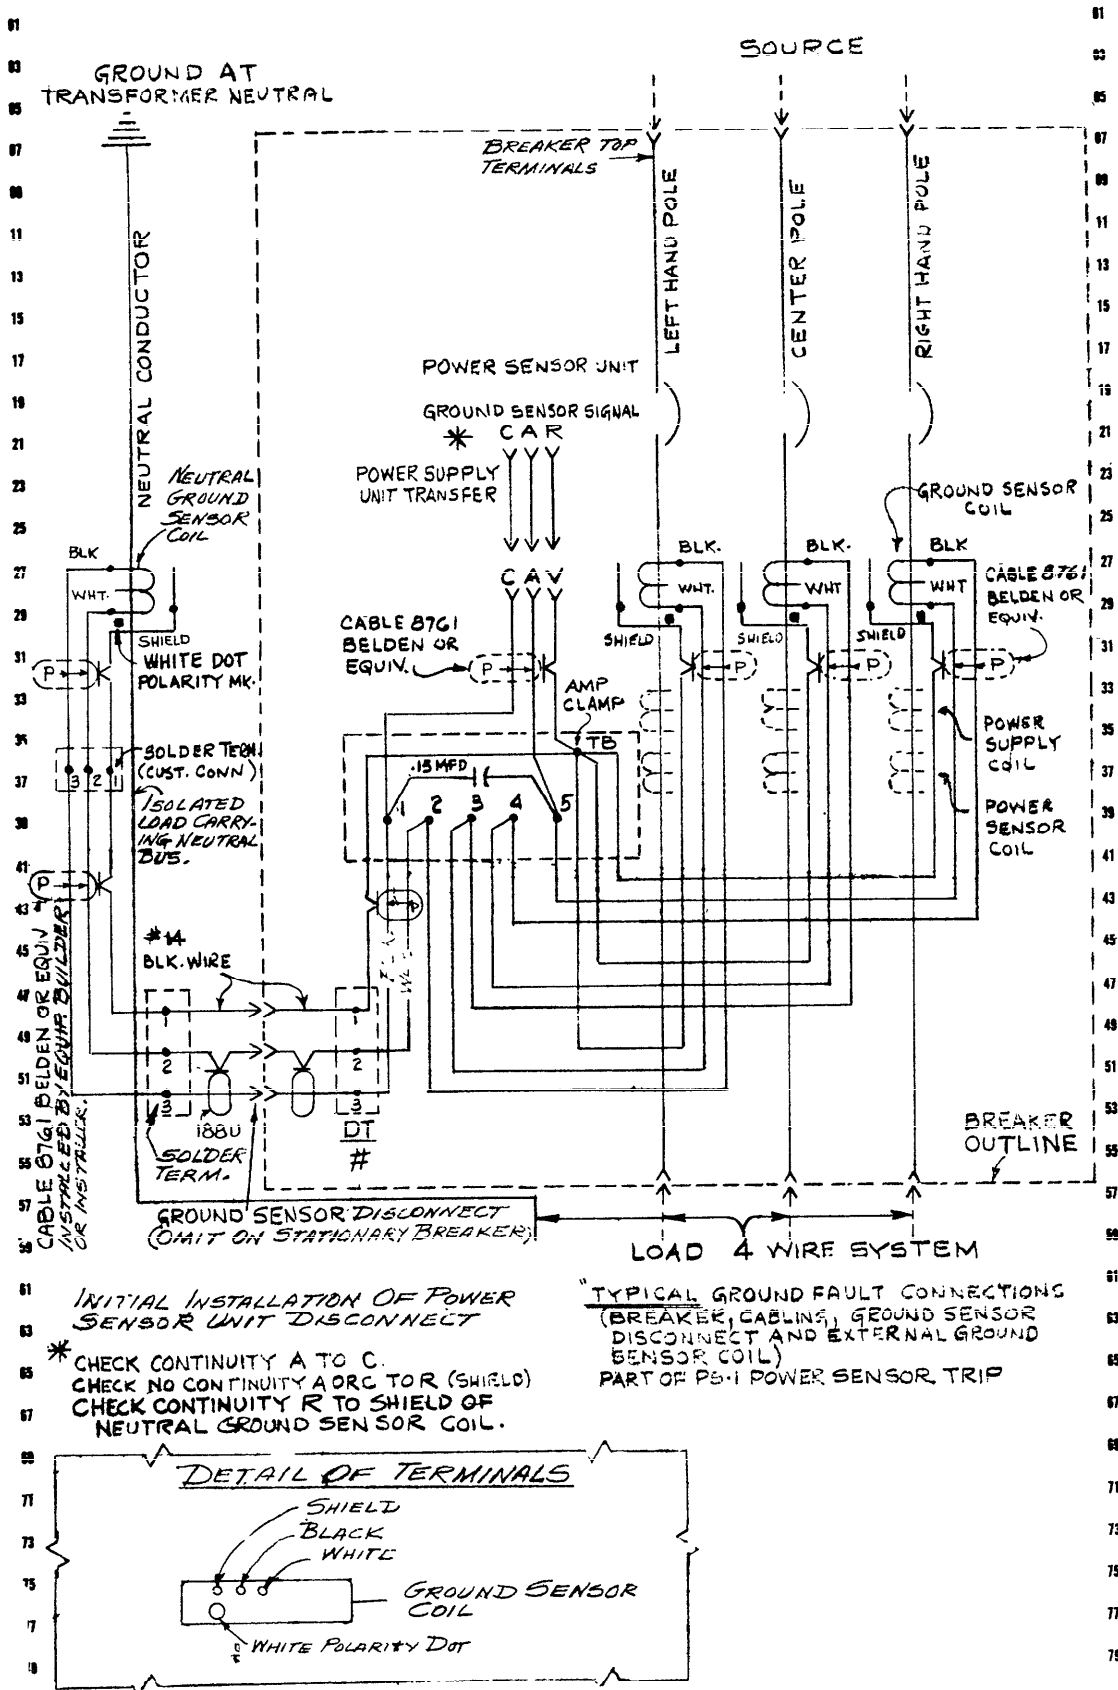

Figure 8. (138B2454-6) Ground Fault System Wiring Diagram
3. Ground Fault System wiring drawing #138B2454 (Figure 8)